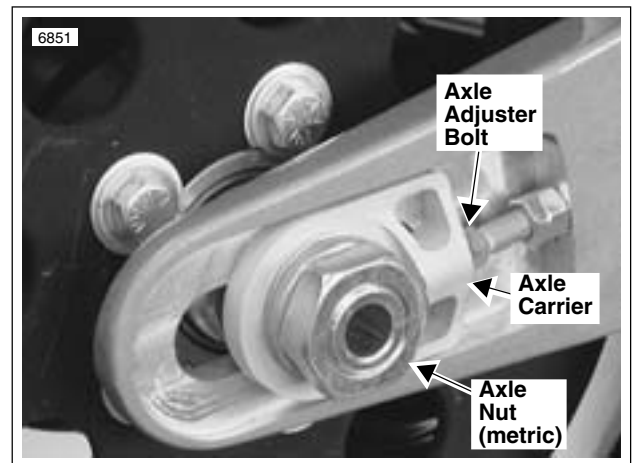

Figure 1-20. Rear Axle Adjuster
1. See Figure 1-20. Loosen rear axle nut (metric), if not already loose.